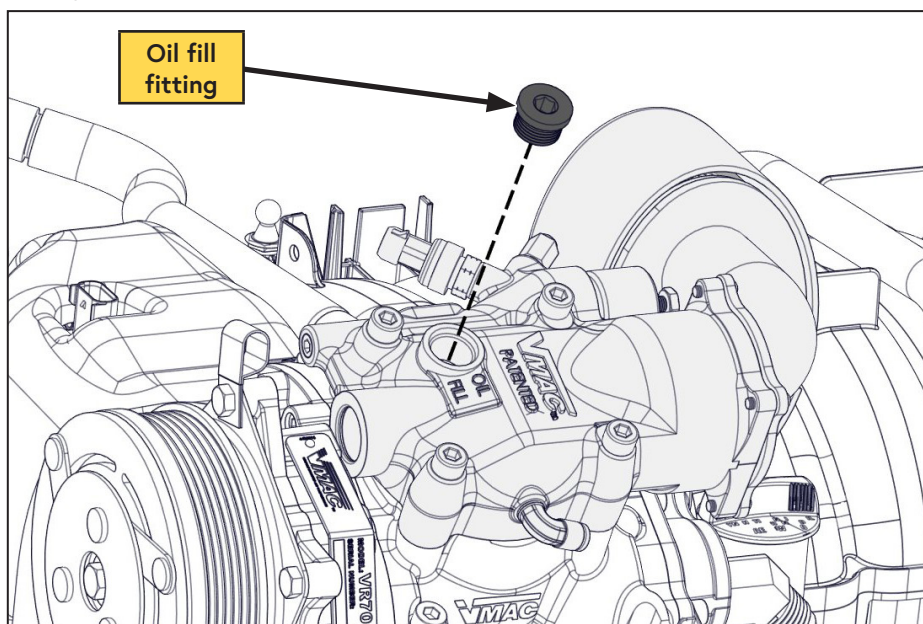

Figure 54 — Oil fill location
- ☐ Remove the fitting from the inlet (mounted on the top of the compressor) (Figure 54).